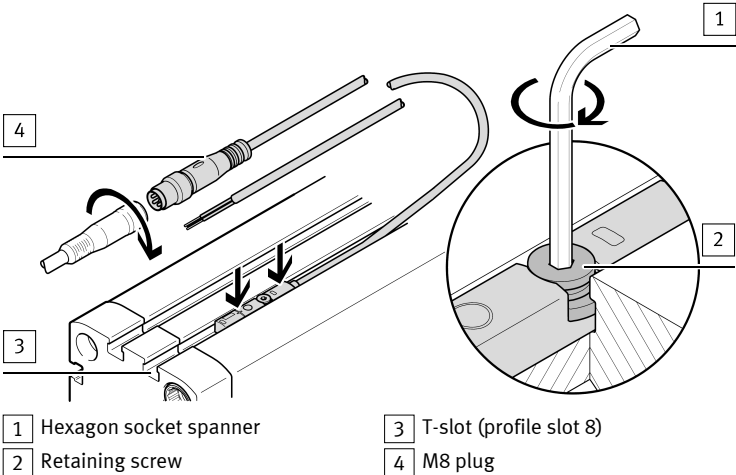

Fig. 5 Mechanical installation
2. Connect the M8 plug to the connecting cable of the higher-order controller → Fig.5, 4.
3. Undo the hexagon socket-head bolts → Fig.5.